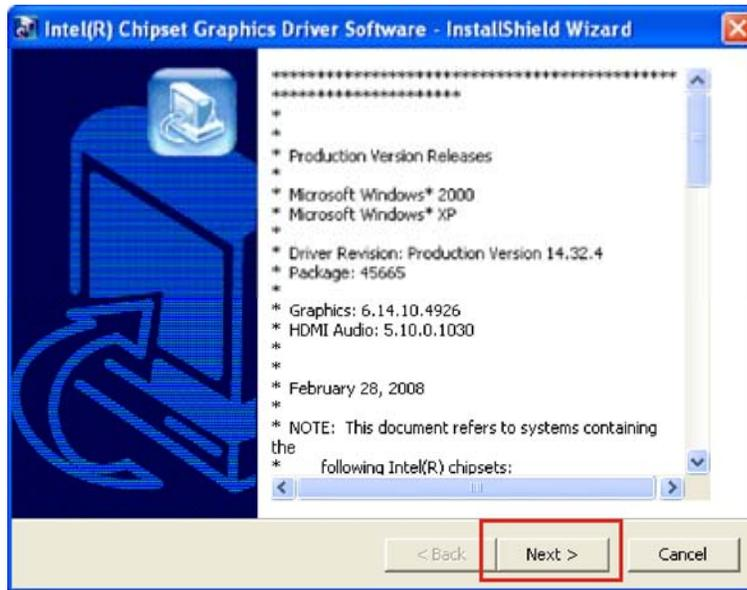

Figure 6-9: VGA Driver Read Me File
Step 22: The VGA Read Me file in Figure 6-9 appears.